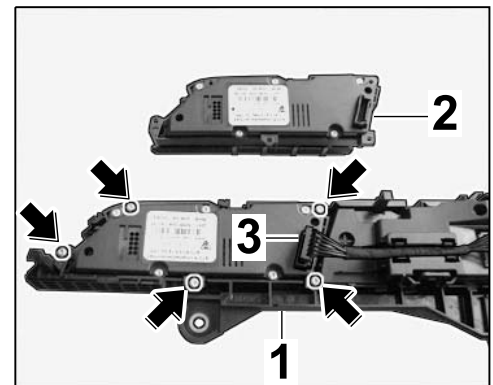

Figure 52
- 8.2.1 Disconnect plug connection ⇒ *Figure 52 -3-*.
- 8.2.2 Remove screws ⇒ *Figure 52 -arrows-*.
- 8.2.3 Replace button module ⇒ *Figure 52 -2-* with a new button module with "sports exhaust system".